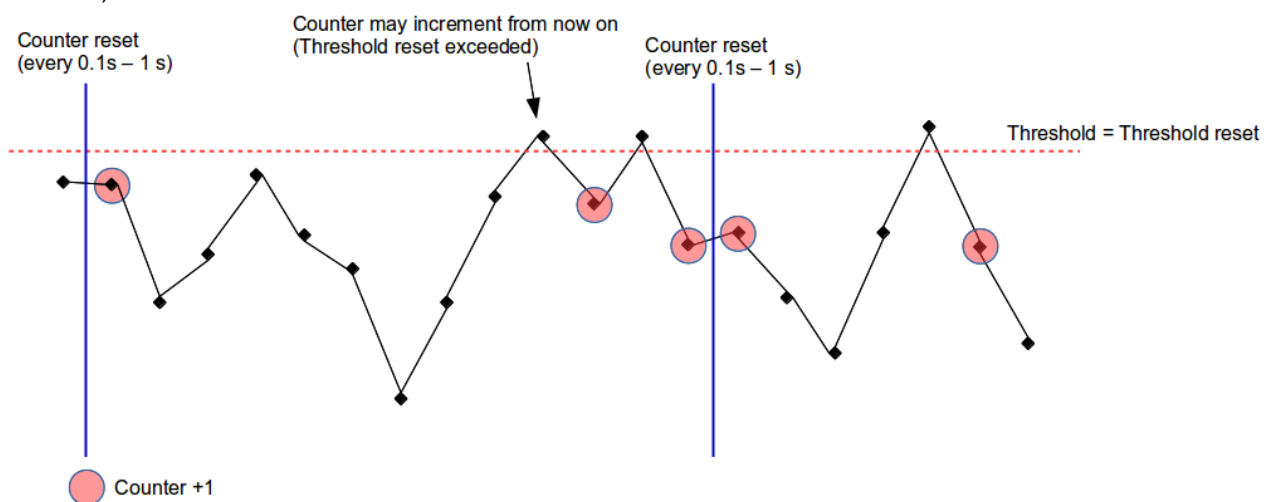

Figure 11: Normal counting mode, 1 threshold, dead time 1.
When an ADC sample drops below Threshold limit, this is considered as a loss event. A counter increments by 1. Detection algorithm then ignores the next (D) ADC samples. The “D” stands for a dead time. Signal must raise above the Threshold before a new loss event can be detected. See Figure 11 for details (dead time is 1).